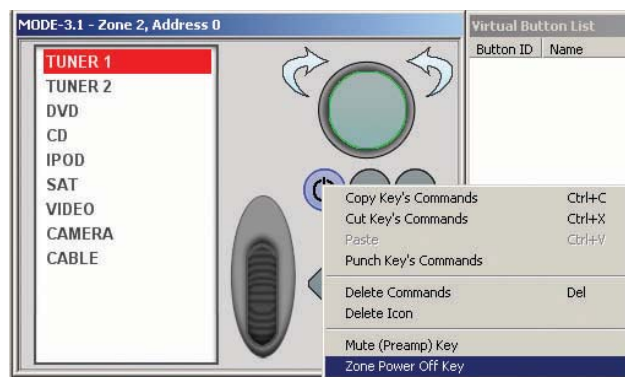

Figure 27
7. Right click the **MODE Power Button**. In the pop-up, highlight and left click **Zone Power Off Key** as shown in **Figure 27**. This will configure the key for **Zone** and **Whole House Off** and punch the commands to all banks. The key will highlight green to indicate special whole-house functionality.